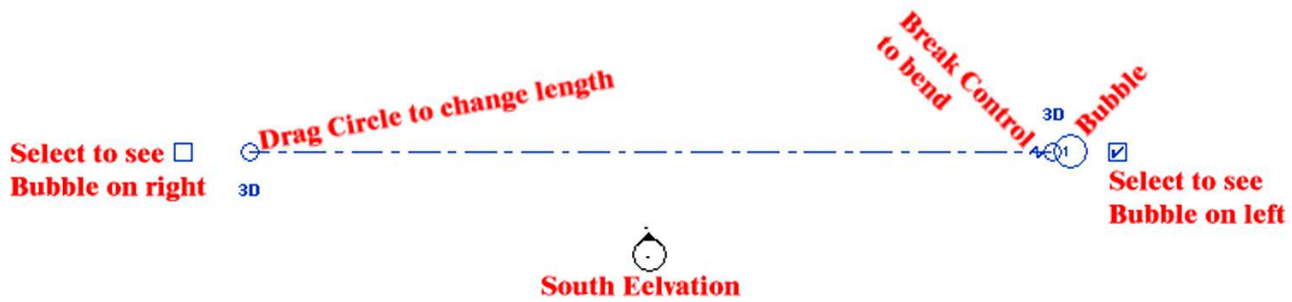

Fig. 1.16 – Horizontal Grid Line
4. Near the South Elevation, click left then click right to draw a grid line between West and East Elevations (Fig. 1.16).
- Draw all the grids by clicking left and right (Fig. 1.16) and the adjust distances from Grid 2 upwards.